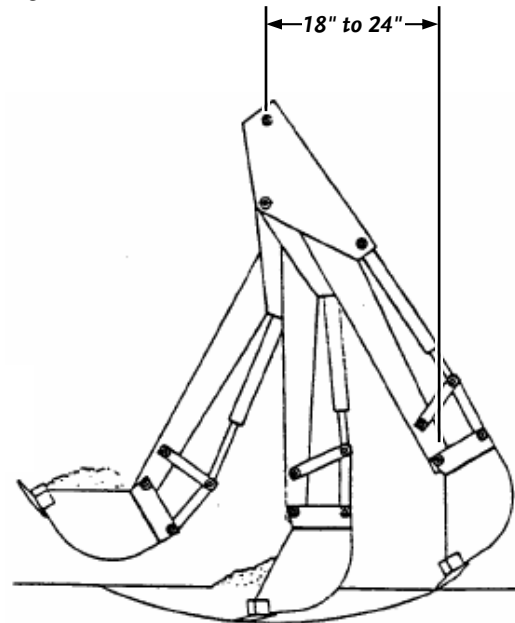

Figure 18
1. Lower the Bucket to the digging area with the Bucket pivot 18" to 24" forward of the Boom/Crowd Arm pivot (**Figure 18**).
3. With the Bucket in the ground, simultaneously retract the Crowd Arm and load the Bucket until it is full (**Figure 18**).